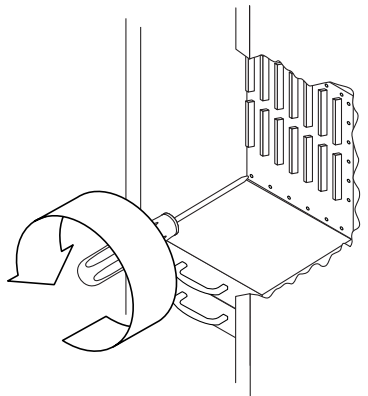

FIGURE 12-6 Removing the Screws Securing the System Centerplane—Sun Fire 6800 System
11. At the front of the system, remove the 19 screws securing the centerplane to the chassis (FIGURE 12-6).